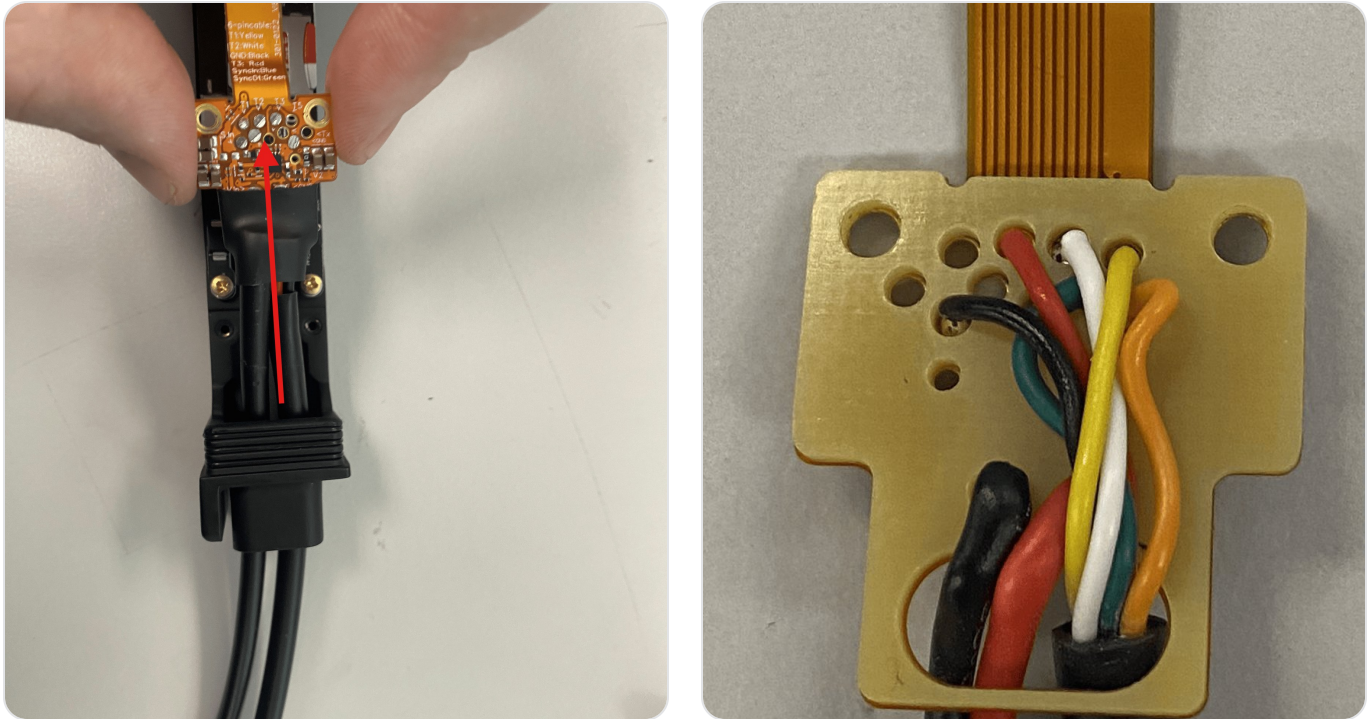

Figure 23. *Left: removing the charge protector board. Right: the exposed input-cable wiring.*
4. Remove the charge protector board and input cables from the Magpie sled to expose the underlying wires (Figure 23). Feed the two input ports through the Magpie sled one at a time.